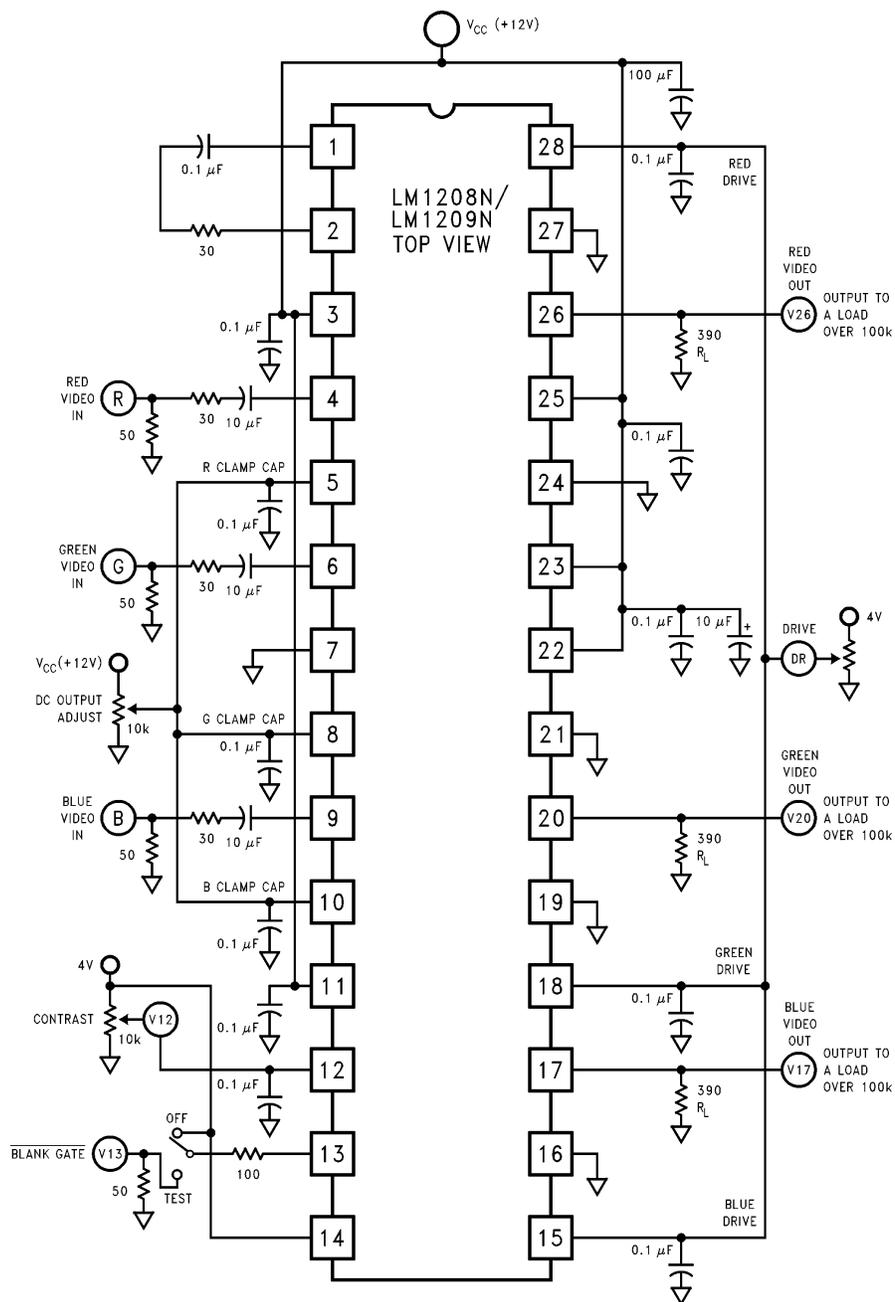

FIGURE 3. LM1208N/LM1209N AC Test Circuit
**AC Electrical Characteristics** See AC Test Circuit (*Figure 3*),  $T_A = 25^\circ\text{C}$ ;  $V_{CC1} = V_{CC2} = 12\text{V}$ . Manually adjust Video Output pins 17, 20, and 26 to 4V DC for the AC test unless otherwise stated. (Note 14).